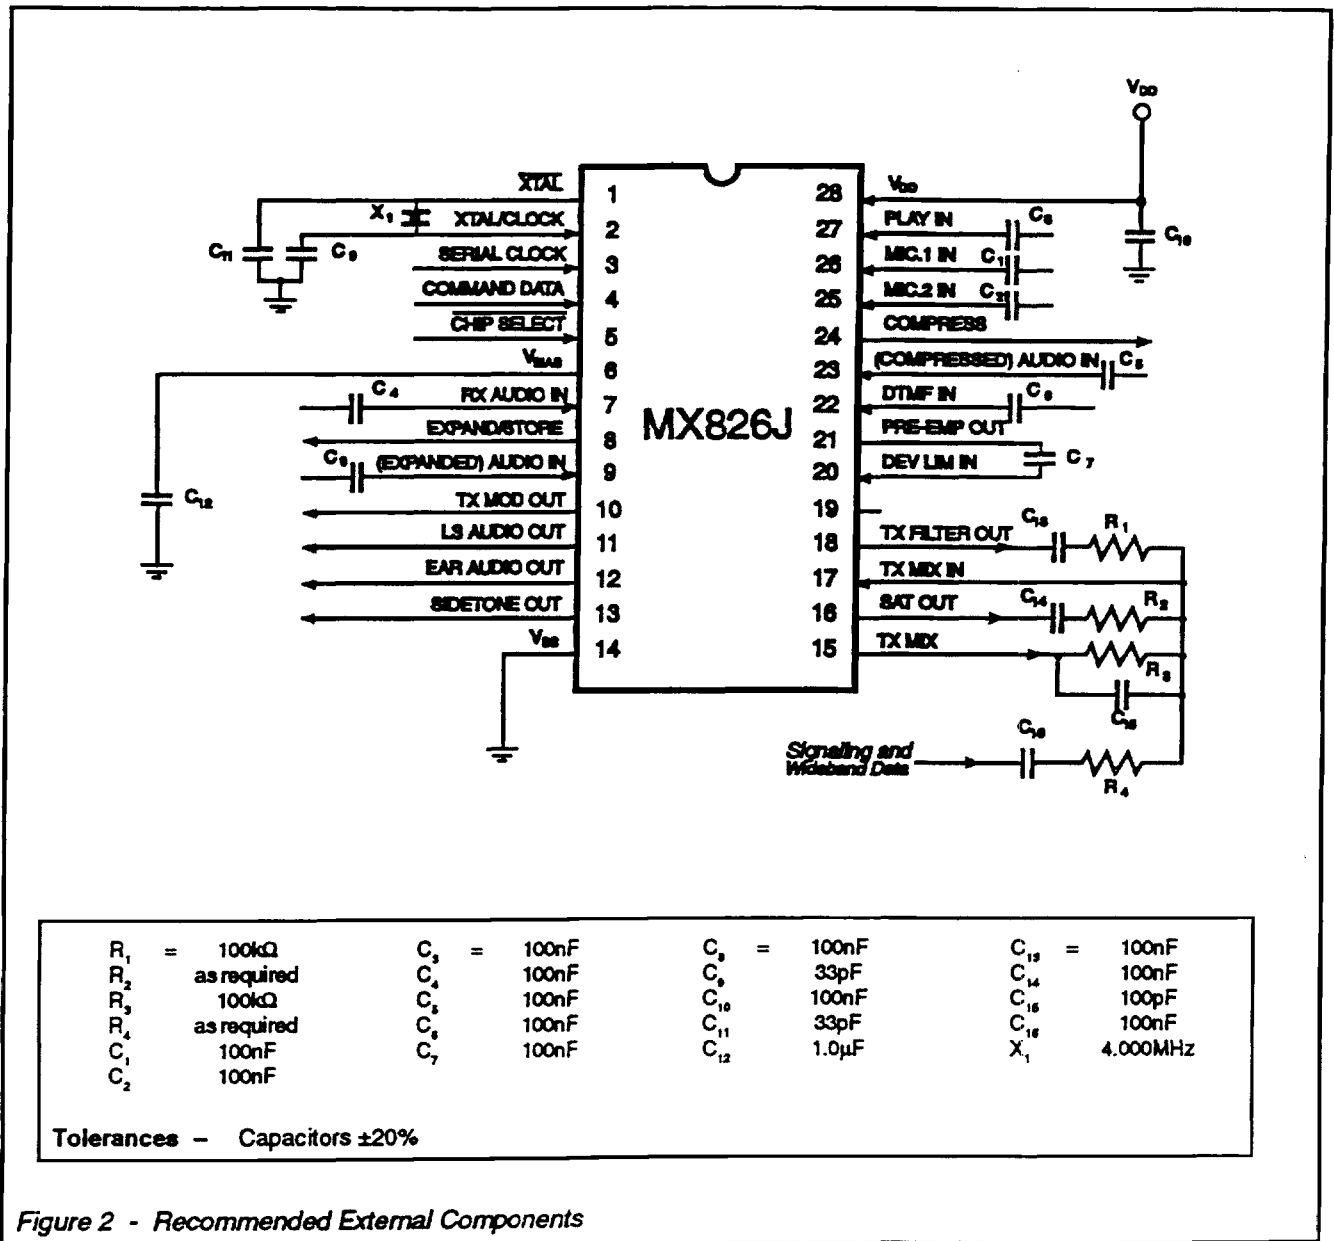

Figure 2 - Recommended External Components
| 2 | Xtal/Clock : The input to the on-chip clock oscillator. A Xtal or externally derived clock (f_{XTAL}) should be connected here. Note that operation of the MX826 without a suitable Xtal or clock input may cause device damage. See Figure 2 (notes). |
| 6 | V_{BIAS} : The internal circuitry bias line, held at $V_{\text{DD}}/2$ this pin must be decoupled to V_{SS} . See Figure 2. |
| 8 | Expand/Store : A common output that can be used as either an input to an external audio expander or the input to a voice storage medium such as the MX812. Components relevant to the external device requirements should be used at this output. See Figures 2 and 3. |
| 9 | (Expanded) Audio In : The audio input, via SW5, from an external expander or audio mixing function. This input has a $1\text{M}\Omega$ internal resistor to V_{BIAS} and requires to be connected via a capacitor. See Figures 2 and 3. |
- 17 TX Mix In:** The input to the TX Mix Amplifier. Used with external components, it allows the TX Filter Out output to mix with externally generated signalling tones prior to the final level adjustment. The recovered SAT signal may be introduced at this point. See Figures 2 and 3.
- 20 Deviation Limiter In:** Input to the on-chip deviation limiter. This input should be a.c. coupled to the Pre-Emphasis Out pin. The a.c. coupling will achieve maximum possible symmetry of limiting as this input has a 1M Ω internal resistor to V_{BIAS} . See Figure 2.
- 21 Pre-Emphasis Out:** Audio output from the TX Gain/Pre-Emphasis function. This output should be a.c. coupled to the Deviation Limiter In pin. See Figures 2 & 3.